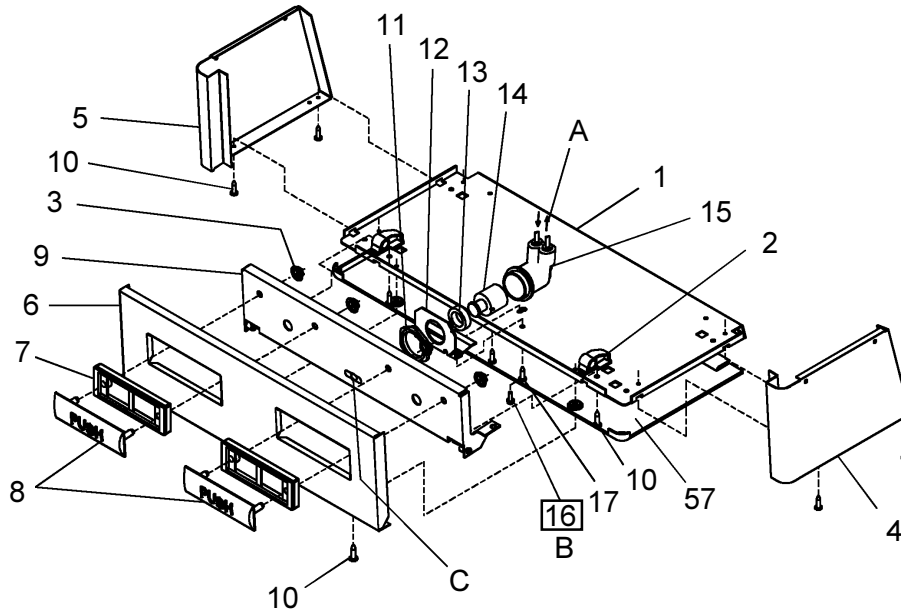

FIG. 3
See Fig. 3 (on Page 3)
- 8) Stream height is factory set at 45-50 PSI. If supply pressure varies greatly from this, readjust stream height to approximately 1-1/2" (38mm) above the bubbler guard by turning adjustment screw, accessible by removing front push panel, Item No.6 (see Fig.3 & 5).
- 10) Replace the front panel and secure by retightening four (4) screws.